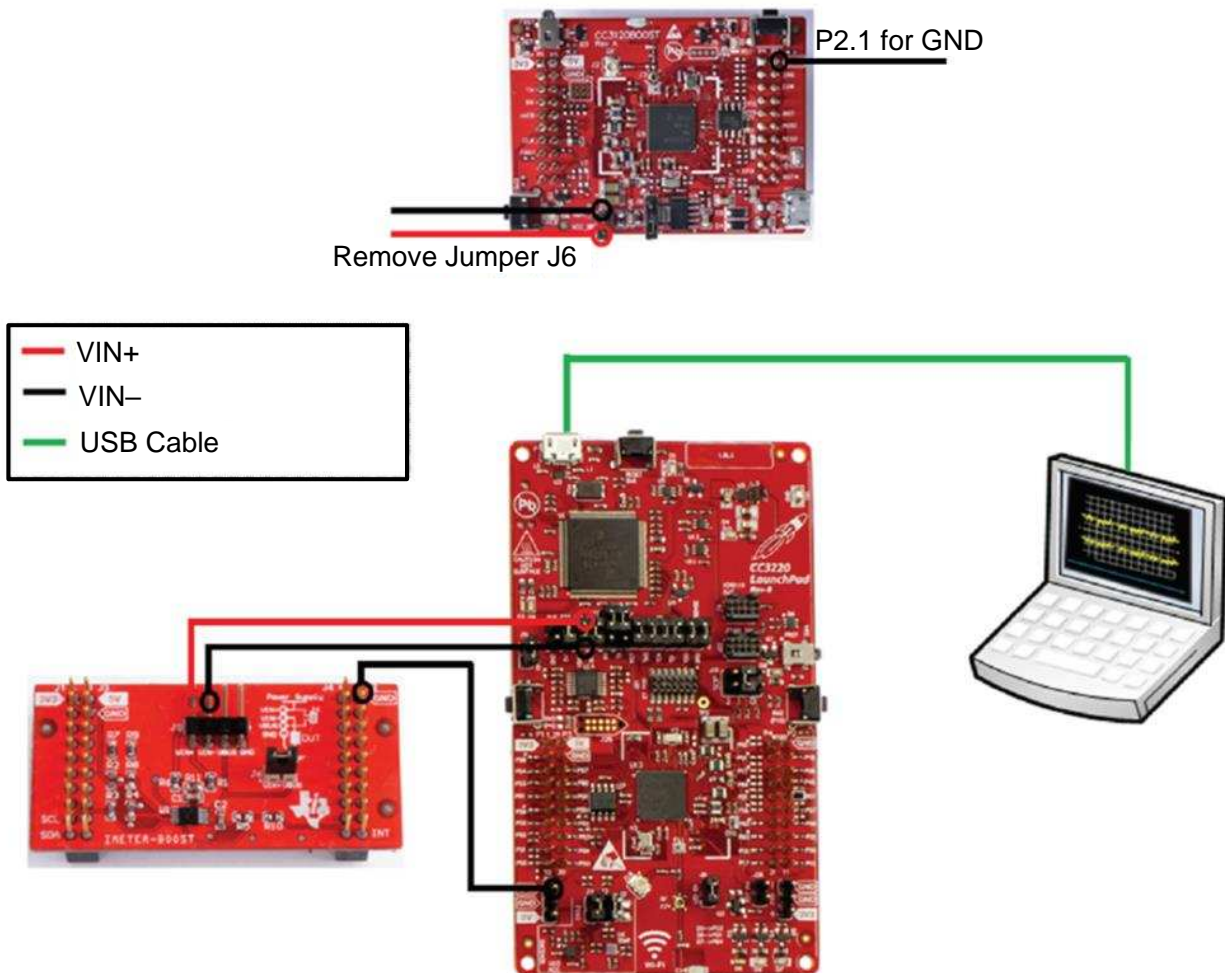

Figure 15. IMETER-BOOST Test Setup
3. Execute the code and measure the current using the data acquisition tool. For reference, Figure 15 shows the full overview.